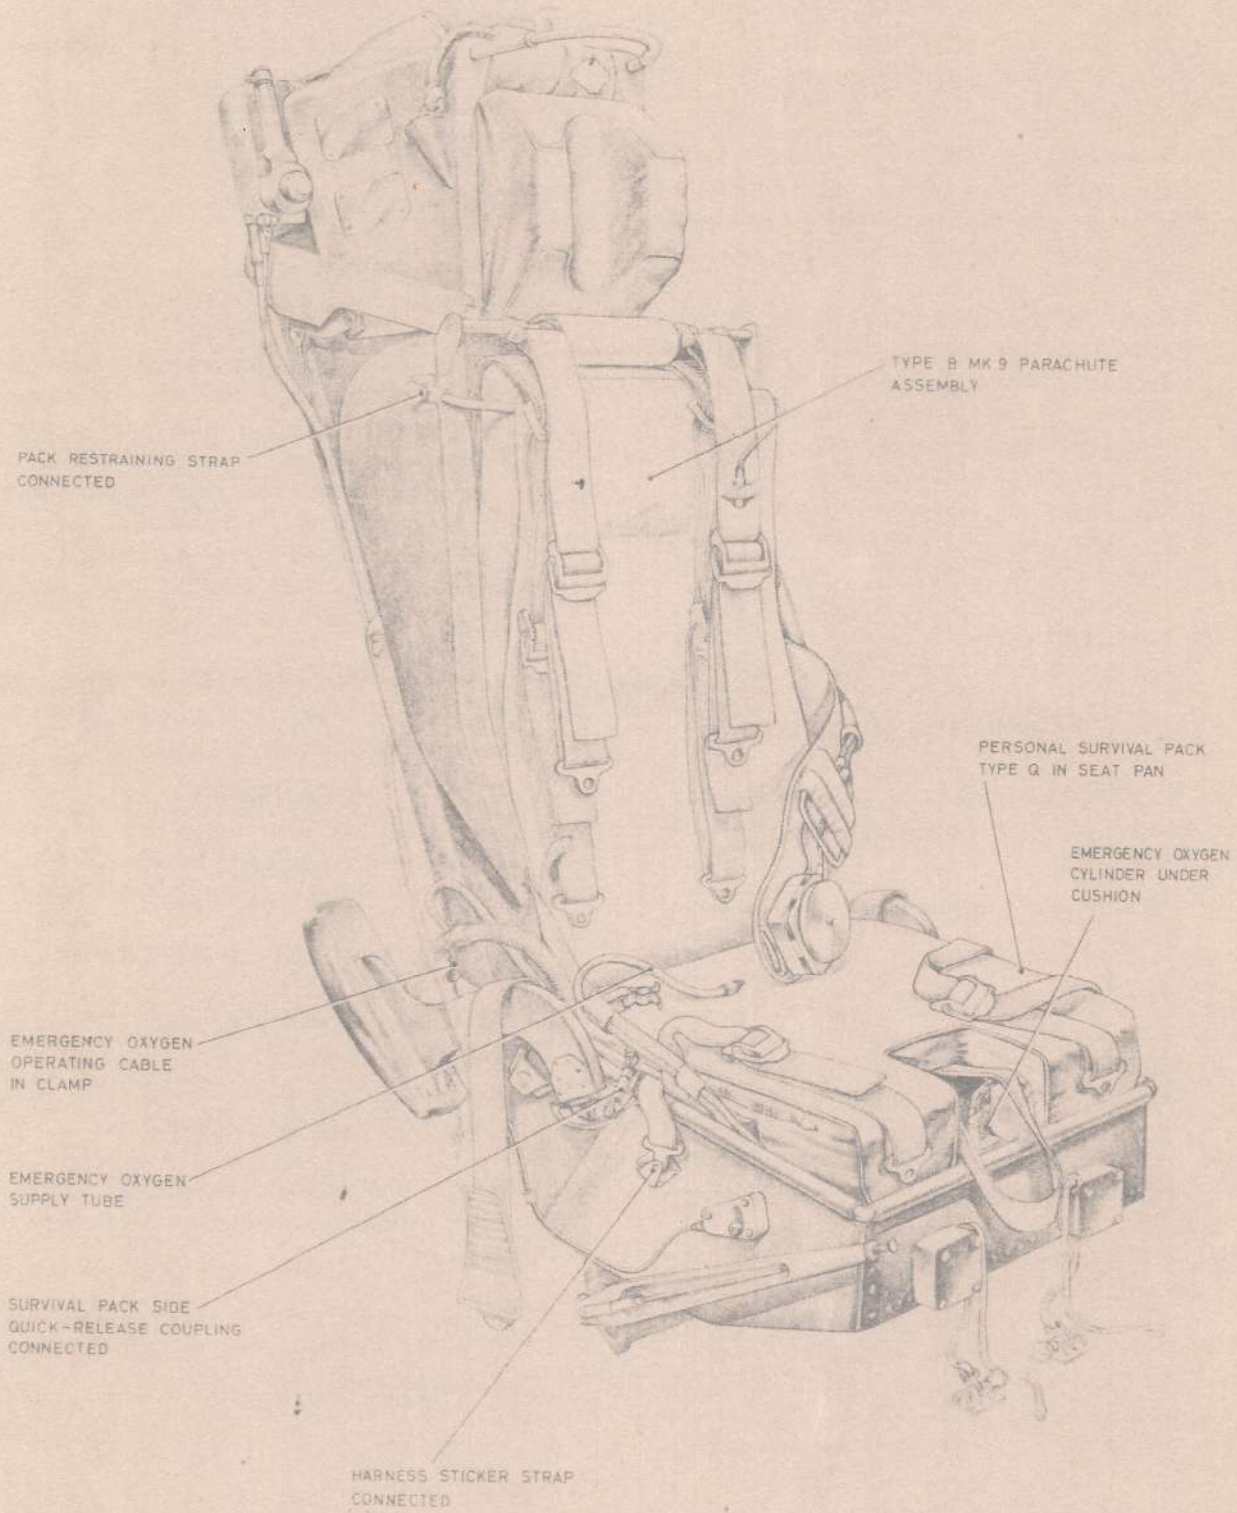

Fig. 1 The ejection seat equipped (1)
13. The following procedure is to be used when equipping the seat: refer to fig. 1 and 2 as necessary:—